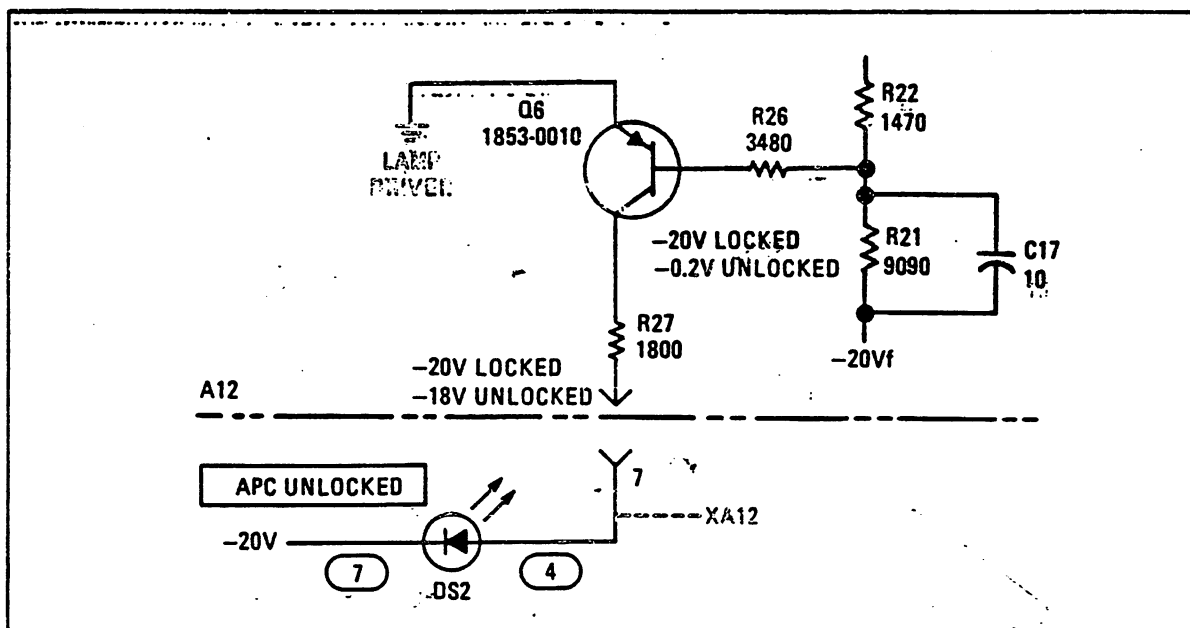

Figure 3. Partial Schematic of Affected Circuitry
- c. Trace the wiring between the LED and A12 assembly against the schematic in Figure 3.